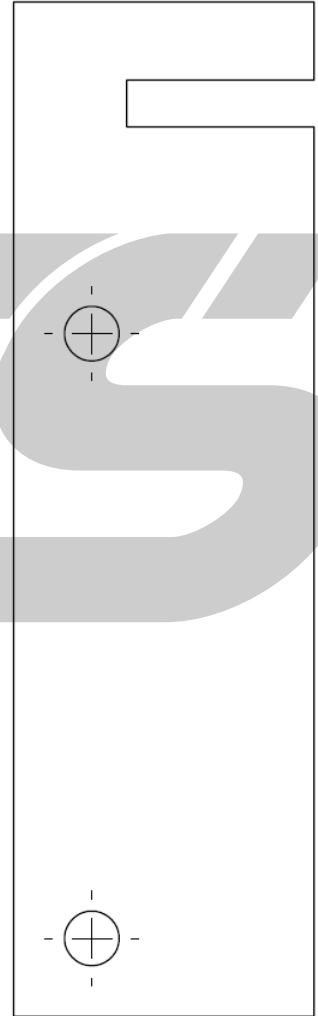

Figure 11a
- Cut out the hole drilling template shown in **Figure 11a**. This template aligns with the vertical support and vertical edge of the radiator core support as shown in **Figure 11b**. There is quite a lot of flexibility on GEN1 filter mounting, this is just our recommended location.